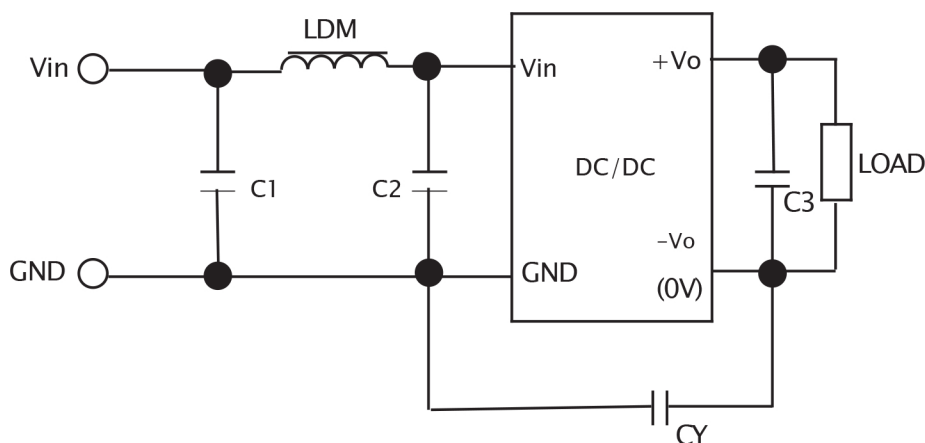

Figure 2: EMC Typical Recommended Circuits
| EMI | Conductive disturbance | CISPR32/EN55032 CLASS B (The recommended circuit is shown in Figure 2) |
| | Radiation disturbance | CISPR32/EN55032 CLASS B (The recommended circuit is shown in Figure 2) |
2. EMC requirements: For situations with high EMC requirements, a typical EMC recommended circuit is shown in Figure 2.